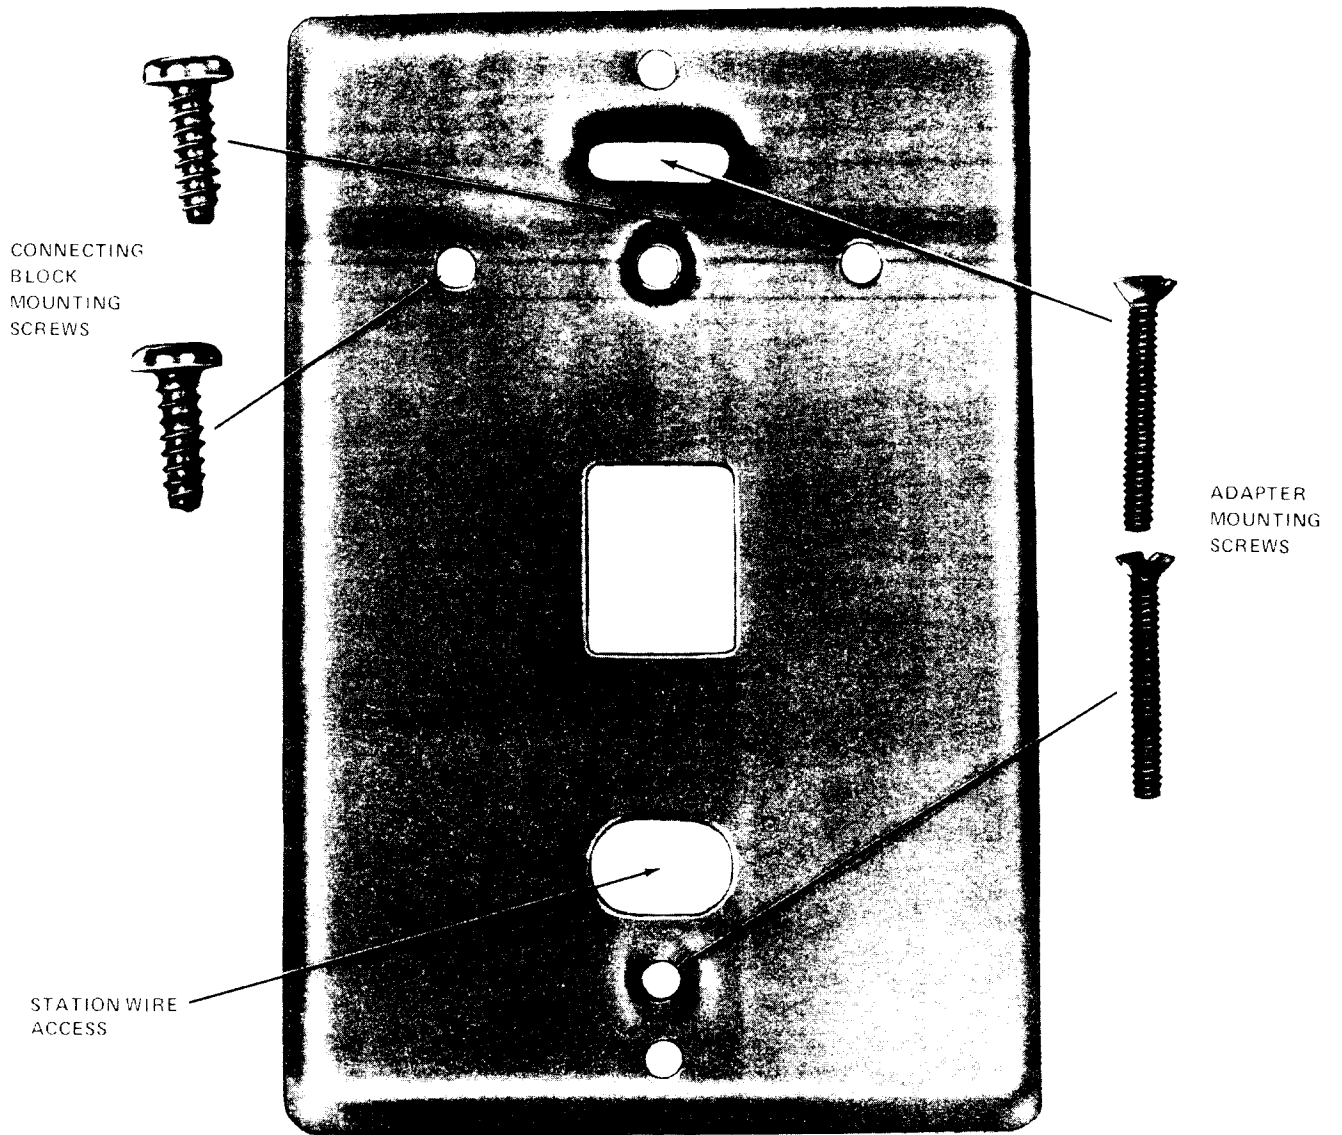

Fig. 3—275A Adapter
2.03 The 275A adapter (Fig. 3) is used for mounting the 86A connecting block to a standard wall outlet box.